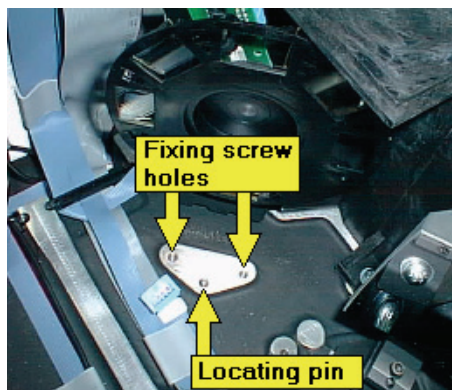

Figure 103 Fixing the emission polarizer wheel in position
7. Fix the emission polarizer into the emission filter wheel location, using the locating hole and pin for initial location of the wheel, as shown in Figure 103.